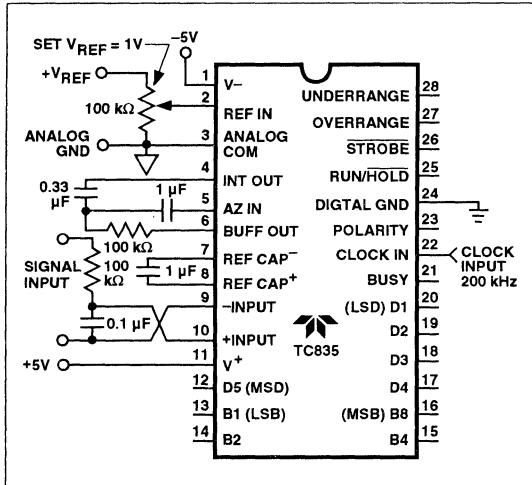

Figure 1 Test Circuit
- Test circuit shown in Figure 1.